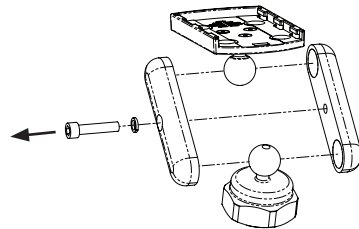

Figure 1
2. Using the 5/32" Hex Key, remove the *Positioning Screw* and *Positioning Lock Washer* to disassemble the Mount as shown in **Figure 1**.